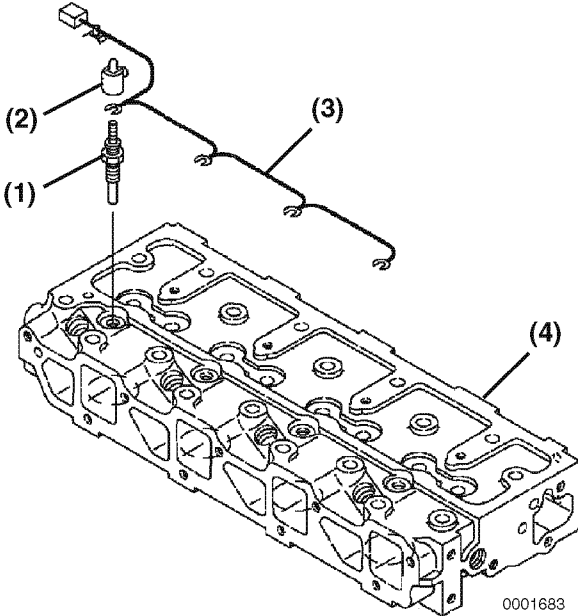

Figure 6-3
1. Remove the glow plug cover (**Figure 6-3, (2)**) from each of the glow plugs (**Figure 6-3, (1)**).
2. Disconnect the glow plug harness (**Figure 6-3, (3)**) from the glow plugs.
3. Remove the glow plugs from the cylinder head (**Figure 6-3, (4)**).